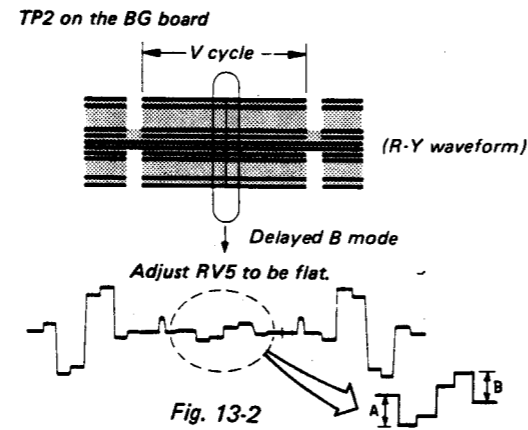

Fig. 13-2
4. By observing the waveform shown in Fig. 13-2, adjust RV9 on the BD or BM board so that it becomes A = B.
5. Adjust RV5 on the BD or BM board so that the waveform shown in Fig. 13-2 becomes flat.